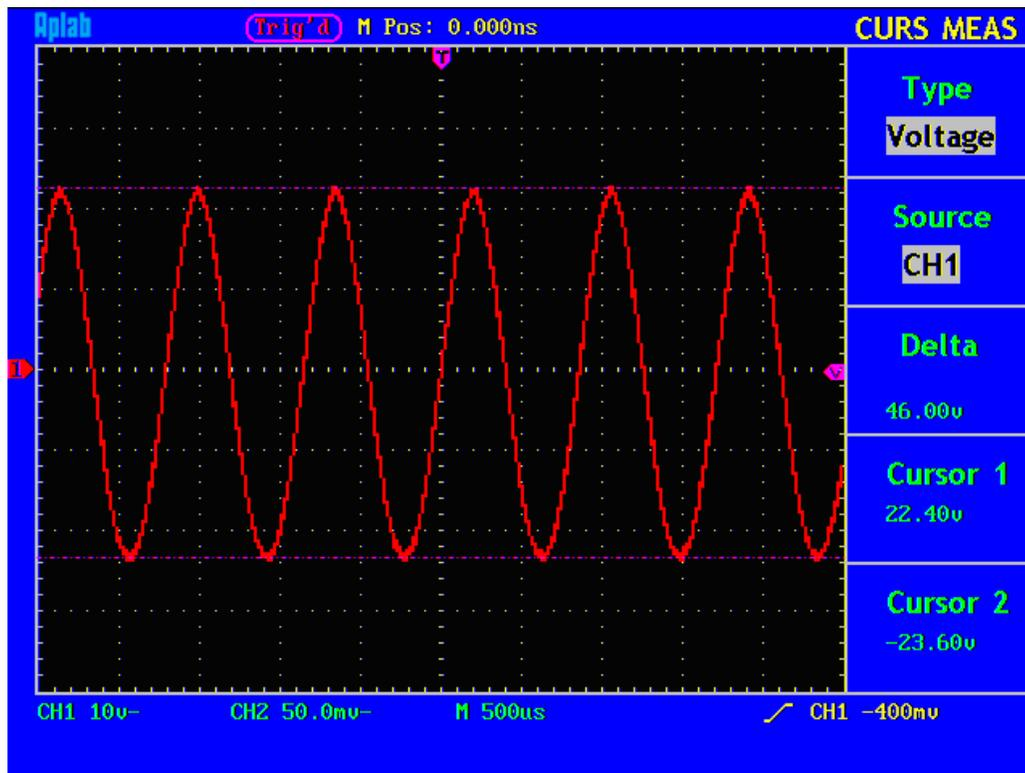

Fig. 51 Wave Form of Voltage Cursor Measurement
4. Adjust the positions of **CURSOR1** and **CURSOR2** according to the measured wave form, with the absolute value of the voltage amplitude difference between Cursor 1 and Cursor 2 displayed in the increment window. The current position of Cursor 1 is displayed in the Cursor1 window and that of Cursor 2 is displayed in the Cursor2 window (see Fig. 51).